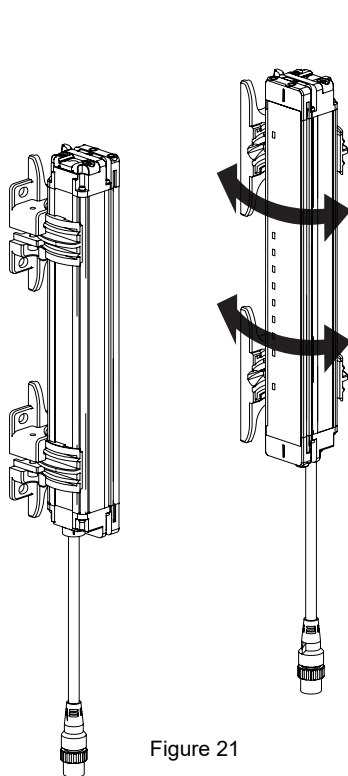
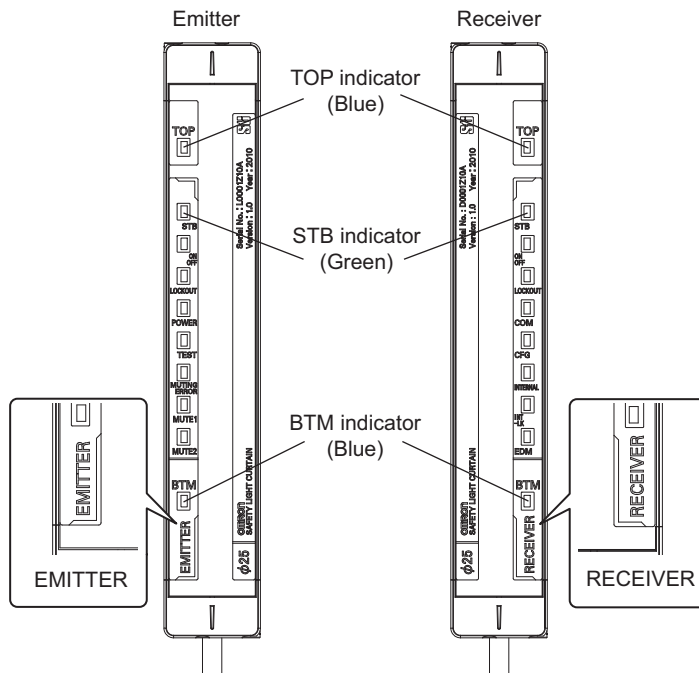

Figure 21
Figure 22
6. Turn ON the sensor to perform beam alignment. Move the emitter from side to side (Figure 21) to align it to a center position where the stable-state indicator (STB) is turned ON while checking the top beam state and bottom beam state with the top-beam-state indicator (TOP) and bottom-beam-state indicator (BTM). (Figure 22) Next, move the receiver from side to side (Figure 21) to align it to a center position where the stable-state indicator (STB) is turned ON. (Figure 22)